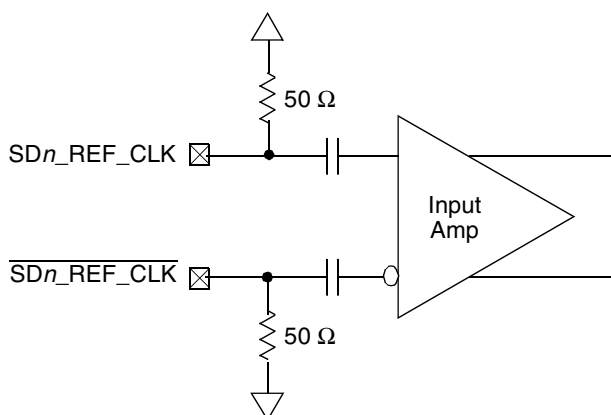

Figure 49. Receiver of SerDes Reference Clocks
Figure 49 shows a receiver reference diagram of the SerDes reference clocks.
- The SDn_REF_CLK and $\overline{SDn_REF_CLK}$ are internally AC-coupled differential inputs as shown in Figure 49. Each differential clock input (SDn_REF_CLK or $\overline{SDn_REF_CLK}$) has a 50 Ω termination to SGND_SRDSn (xc0vss) followed by on-chip AC-coupling.